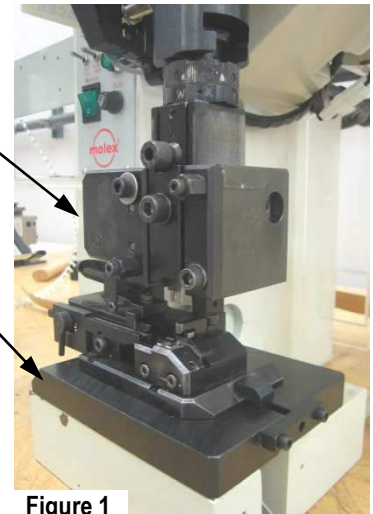

Figure 1
- This Press Adapter Kit is designed for the Hirose* AP105 series applicators. This adapter kit allows the Hirose* applicator to be installed into a Molex TM-3000™ (63801-7200 and 63801-7300) or TM-4000™ (63801-7600) press. See Figure 1.